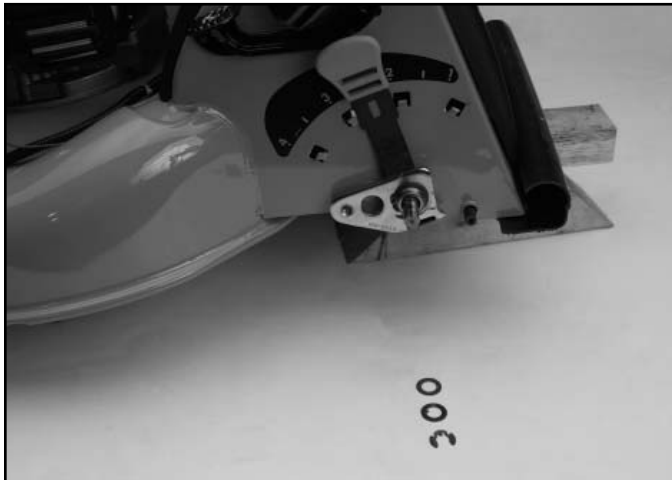

Fig 098
11. Remove klip ring, keyed thrust washer, and standard thrust washer (left side of mower has the standard thrust washer, right side does not) (Fig. 098).